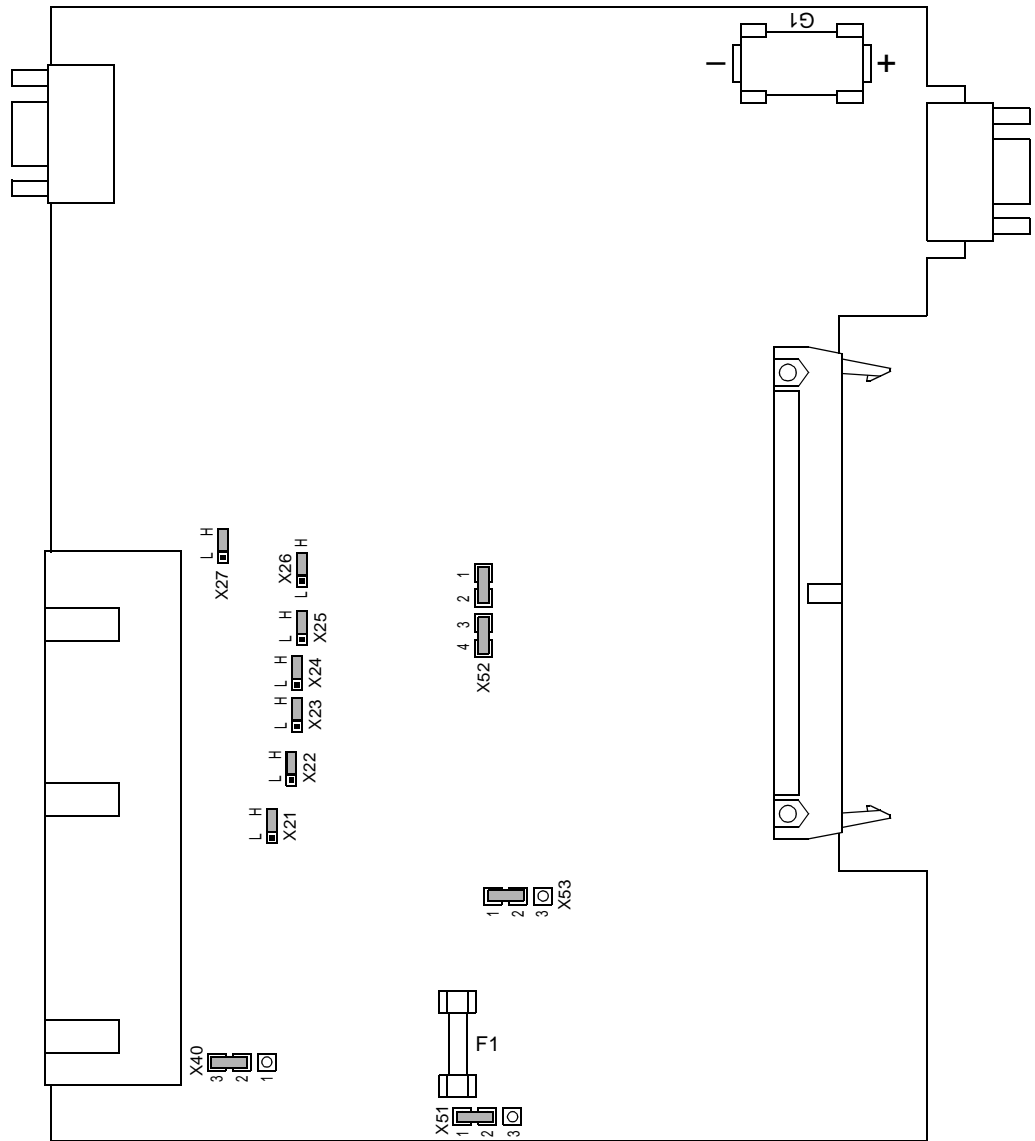

Figure 8-8 Jumpers On The CPU Board For The Power Supply And Binary Inputs BI1 To BI7 (Simplified)
- Disconnect the ribbon-cables between the CPU board (❶) and the I/O boards (❷❸).
- Check the jumpers according to Figures 8-8 to 8-12, and Tables 8-2 to 8-9. Change or remove the jumpers as necessary.